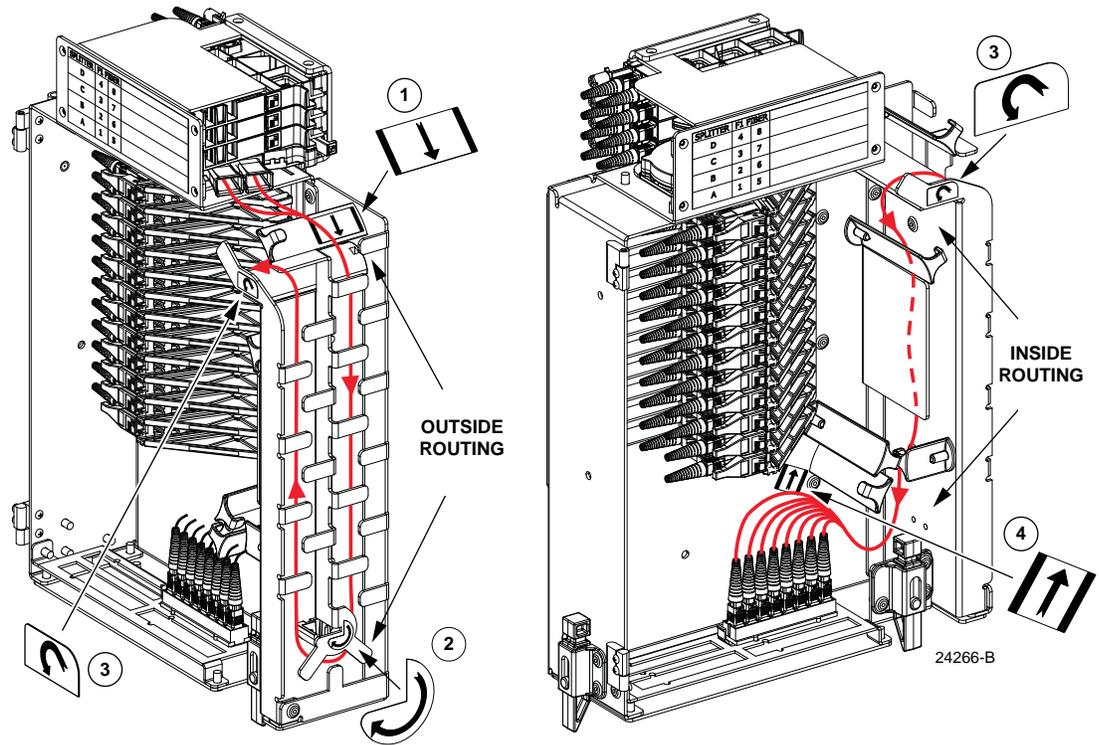

Figure 57. Routing Splitter Output Fibers for Storage
3. Use the fiber guideways on the outside and inside of the swing frame to route and store the fiber slack as shown in Figure 57. Labels are provided that show the fiber routing.